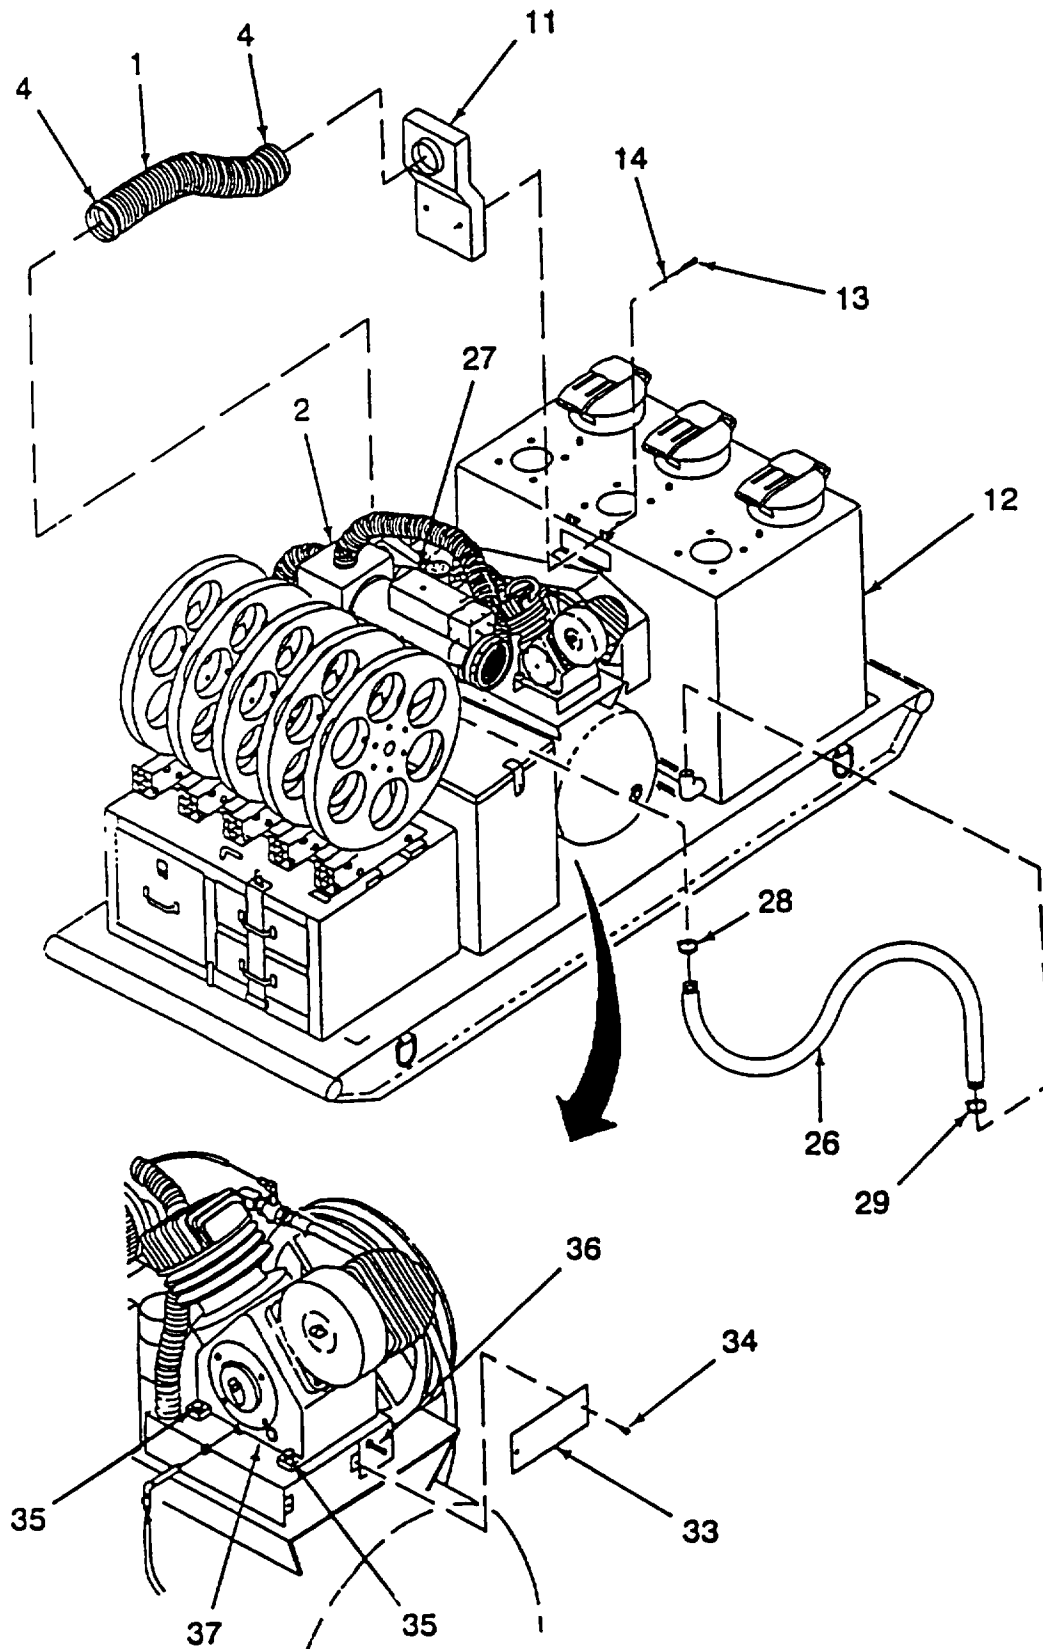

Figure 4-21. Compressor Belts (Sheet 1 of 4)
(1) Removal. (Refer to Figure 4-21).